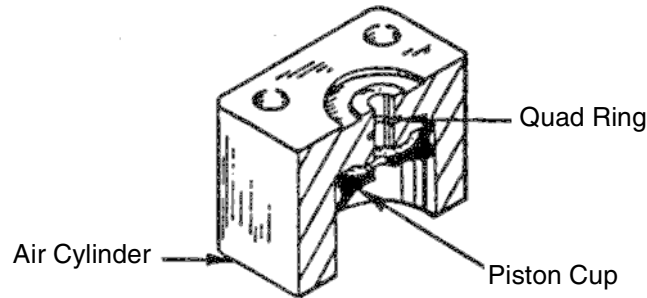

Figure 1-6 Positioning the Quad Ring in the Air Cylinder
5. To disassemble the trim assembly, pull the red visual indicator cap (3) off the valve stem (8).
6. Using a 7/16" deep socket wrench, turn the stop nut (4) counterclockwise while gripping the bellows seal disc (11) in the other hand.
7. Remove the stop nut (4) and pull the air cylinder (6) away from the valve stem (8).
9. Place the air cylinder upside down on a flat surface with the large bore and piston cup insert (5) facing down.
10. Remove the piston cup insert from the air cylinder (6) by inserting the eraser end of a pencil (or similar non-destructive object) into the center bore of the air cylinder and pushing the piston cup out the other side.
11. Ensure that the air cylinder (6) is still in the upside down position, using plastic tweezers or other nondestructive instrument, pull the quad ring (7) out of the center bore of the air cylinder (Figure 1-6).